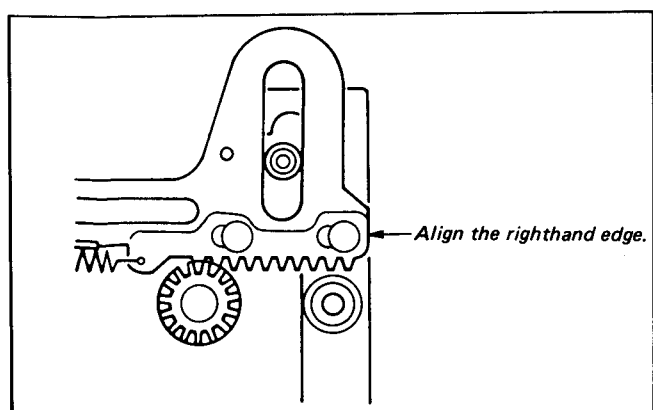

Fig. 8-28.
- 1) Operate the mode selector and align the righthand edge of the L slider and that of the lock slider. (See Fig. 8-28.)